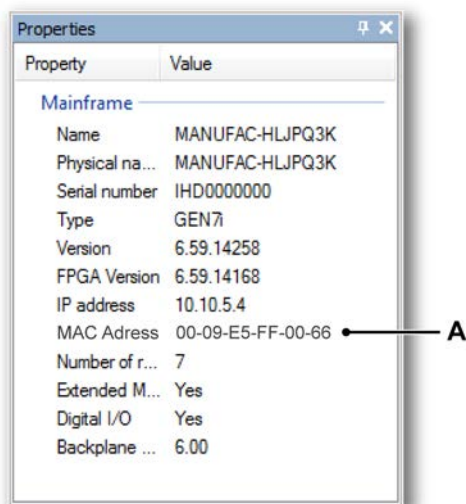

Figure G.5: Properties window in Perception
- 3 Enable the **Properties Window** (see Figure G.5); this can be found in the Perception "Windows" menu.